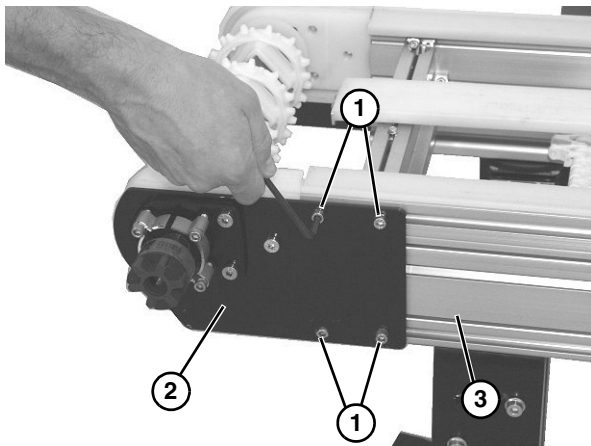

Figure 32
2. Loosen the four socket head screws (**Figure 32, item 1**). Repeat on opposite side.
3. Remove the drive tail assembly (**Figure 32, item 2**) from the frame (**Figure 32, item 3**).